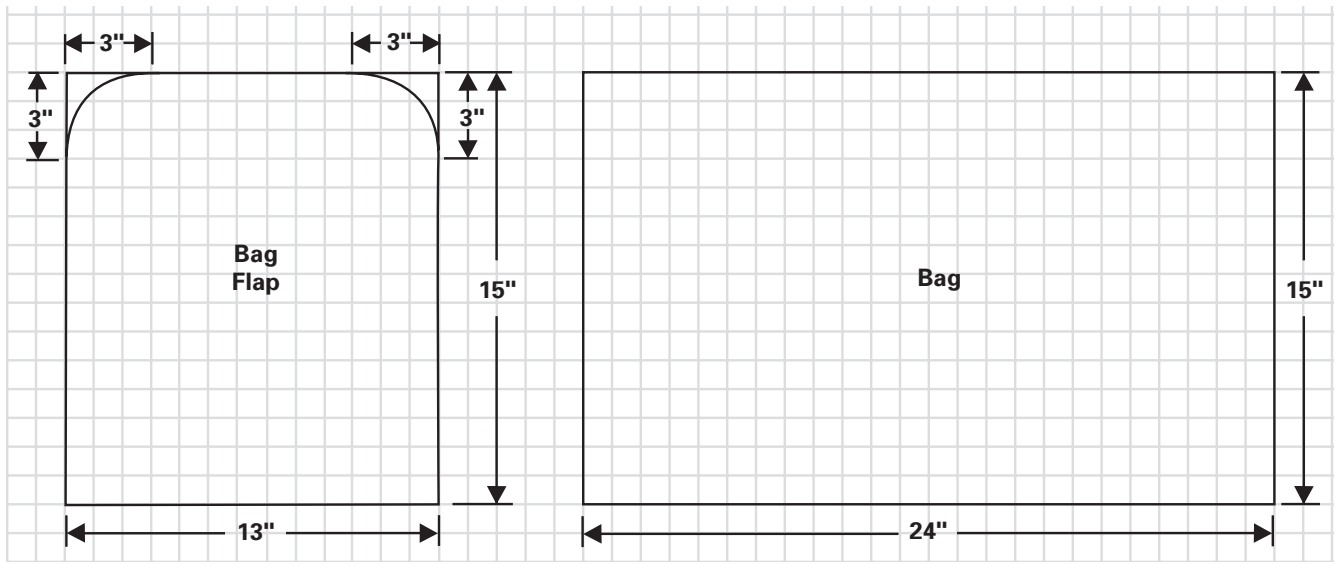

Fig. 7-2
1. On the pattern tracing cloth or tracing paper, draw a 15 inch \times 24 inch (38 cm \times 61 cm) rectangle for the bag and a 13 inch \times 15 inch (33 cm \times 38 cm) rectangle for the flap. Round the corners on one end of the flap rectangle as shown. Cut out the patterns. (Fig. 7-2)